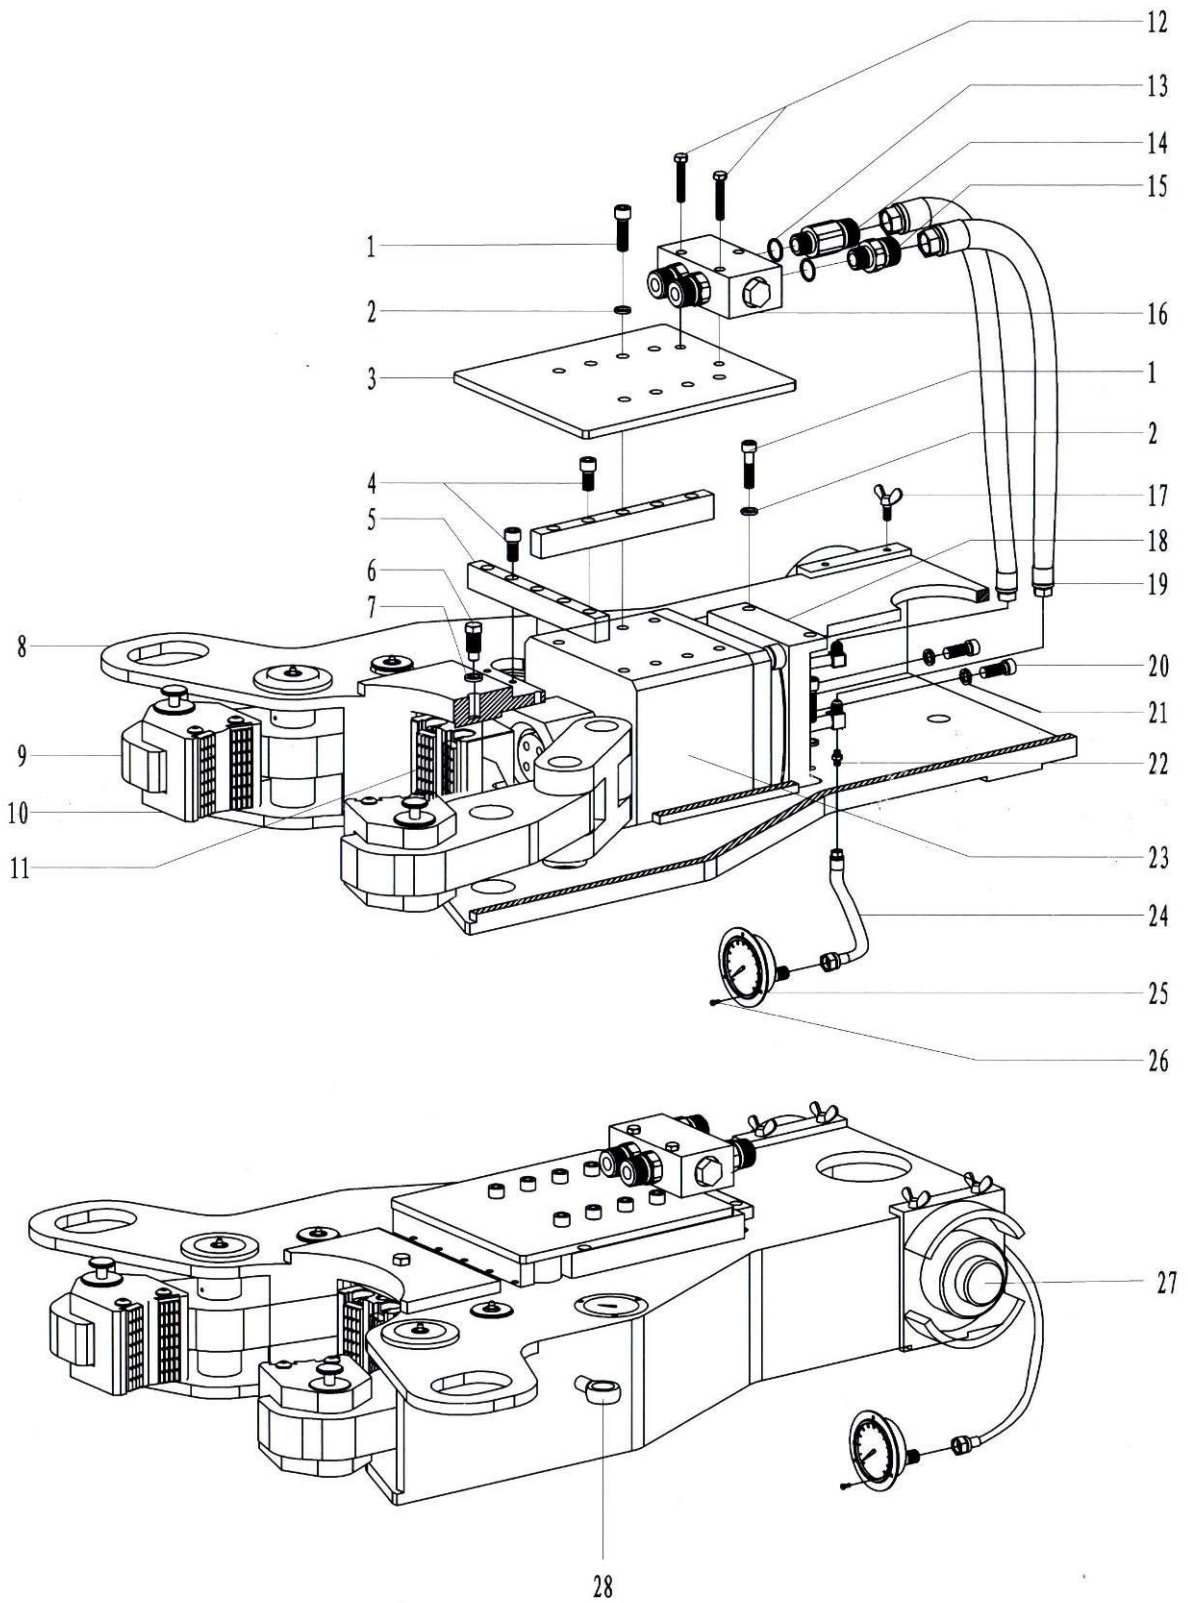

Fig.7-18
18. Assembly of back tong (Fig 7-18, Table 18)